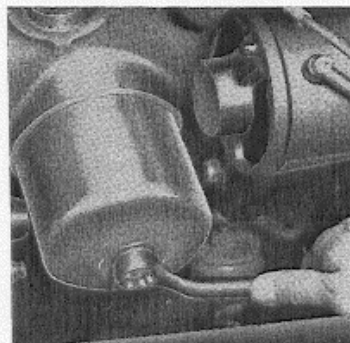

Fig. 8. Removing the oil cleaner.
2. Loosen the centre bolt, see Fig. 8. Collect the oil that runs out.